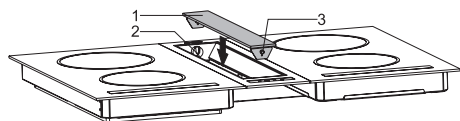

Fig. 12
11. ➔ Insert the glass cover, glass cover moving pin, (Fig. 12/3) on the glass cover moving socket (Fig. 12/2) on the product (Fig. 12).
Insert the glass cover that you have previously removed on the product (Fig. 12).